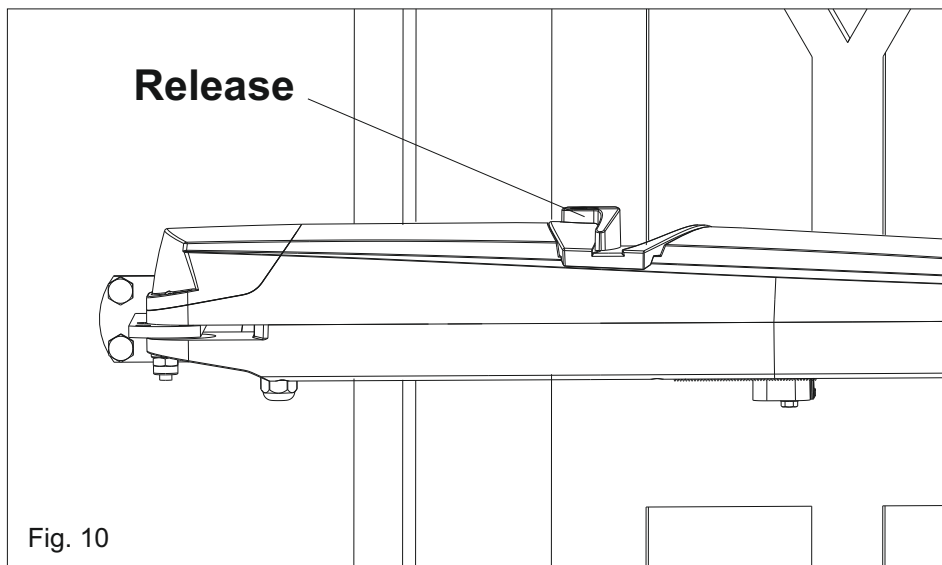

Fig. 10
**Note:** The operator must be mounted with the release turned up (Fig. 10)